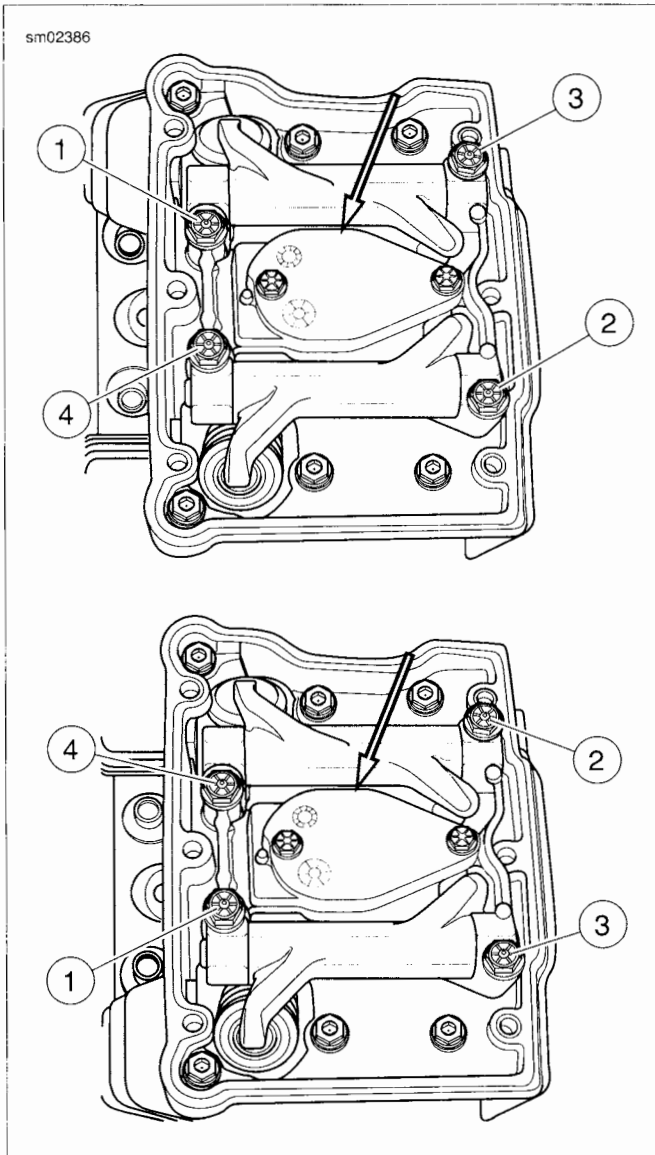

Figure 3-46. Rocker Arm Torque Sequence
2. See Figure 3-46. Place the rocker arm support plate assembly into the rocker housing. Loosely install the four rocker arm support plate bolts with flat washers.